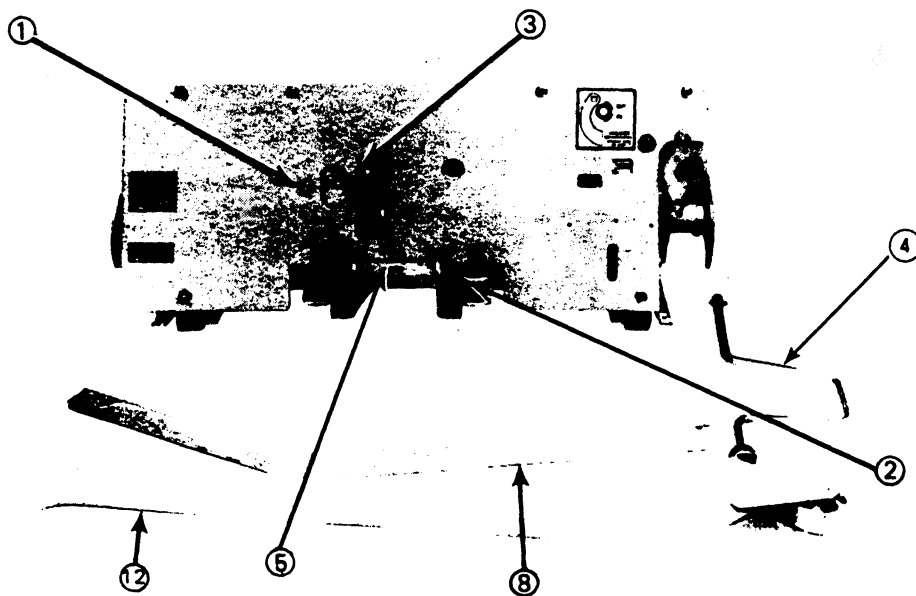

Fig. 3 — Front Circuit Breaker Panel & Accessories
Installing Circuit Breaker into Compartment (See Figs. 3&4)
Turn motor disconnect switch (1, Fig. 3) to "OFF" position.
For installing the circuit breaker into the lower compartment, the fifth wheel is used to position the breaker so that it is lined up with the switchgear. Engage the fifth wheel (12, Fig. 3) with hole (5, Fig. 3). The lift device is required to lift and position the breaker for installation into the upper compartment. Guide and push circuit breaker into compartment until stopped. Again engage racking crank and rotate clockwise until racking mechanism automatically stops at "DISCONNECT" position. (Breaker is now held captive in compartment.)
With the circuit breaker racked to "TEST" position, it should be checked for proper operation by operating all possible means of opening and closing, this includes control switches, relays, etc. Turn motor disconnect switch (1, Fig. 3) to "ON" position to charge the closing springs, and operate the breaker as required.
2. Fully closed breaker (See Fig. 3). Charge the closing springs and turn the motor switch (1) off. Close the breaker. Engage manual charge handle (8) with charging lever (3). During the initial portion of the downward stroke of the handle check to see which direction the closing spring guides (2) move. If this spring guides start to move out then the breaker did not fully close. If the spring guide begins to move in and with additional pumping moves in until the mechanism can be heard to "snap in", then the breaker did not fully close originally. Excess contact pressure or friction can cause this condition and if it cannot be relieved then the factory should be consulted.